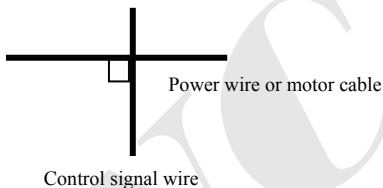

Fig.4-2 System wiring demand
(1) Inverter terminal motor connection wire (U, V, W terminal output wire) and inverter terminal power connection wire (R, S, T terminal input wire) should keep distance enough as possible as can.
(2) U, V, W terminal 3 motor wires should be placed in metal tube or metal wiring tank as possible as.
(3) Generally control signal wire should use shield cable, when shield layer connect to inverter  terminal, it should be the single end earth grounding which closed to inverter side.
(4) Inverter  terminal earth grounding cable must directly connect to floor, it cannot connect to earth grounding through other device, and the location of earth grounding should close to inverter as possible as.
(5) Strong current cable (R, S, T, U, V, W) cannot parallel wiring closely with control signal wire, and bundled together is prohibited. It should keep distance from over 20~60 cm (Relative to strong current size). When it's necessary to intersect, it should be orthogonal crossing, show as Fig.4-2.